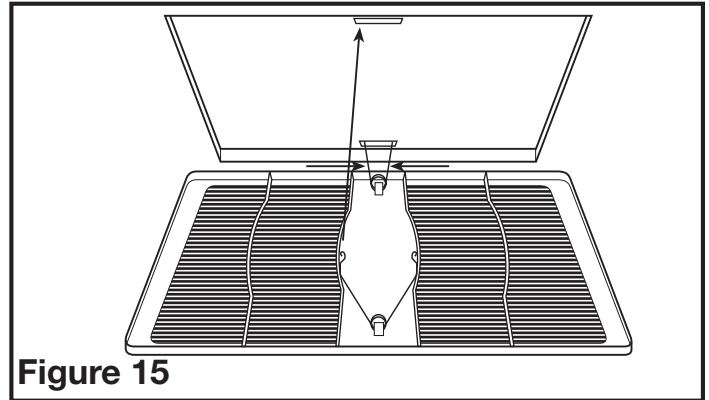

Figure 15
- 6a. **STANDARD AND HUMIDITY SENSING MODELS:** Install the grill by squeezing the two ends of the springs together and installing them up into the slots on the fan's housing. Push the grill up into position (Figure 15).